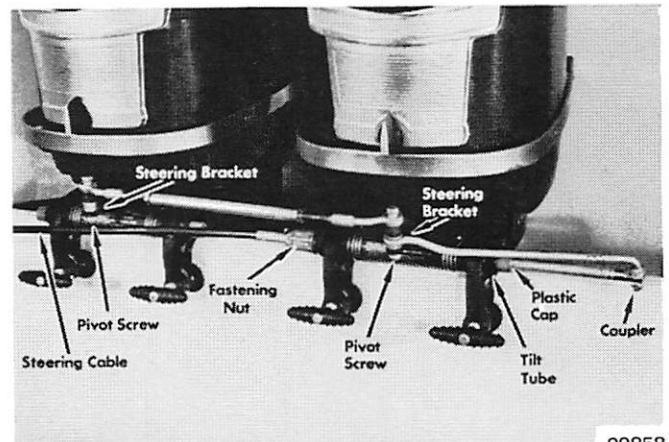

Figure 4. Dual Engine Installation
*NOTE: On earlier models, the pivot pin on left engine (Figure 4) must be replaced with longer pivot pin from kit to accommodate the 2 link rods.*
1. Dual control Ride-Guide attachment kit includes all parts necessary to connect both engines to cable. (Figure 4)
3. Assemble parts from kit to protruding pivot pin in the following order: Right hand engine in Figure 4 - flat washer, stainless steel ball (with flat side up), adjusting link, nylon washer, flat washer, spring and rubber sleeve,
flat washer and elastic stop nut. Left hand engine in Figure 4 - flat washer, stainless steel ball (with flat side up), adjusting link, nylon washer, flat washer, spring and rubber sleeve, flat washer, nylon washer, link rod, stainless steel ball (with flat side up), flat washer and elastic stop nut.